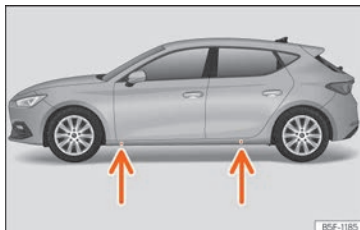

Fig. 46 Jack position points.
- Find the support point on the strut (sunken area) closest to the wheel to be changed »» » **Fig. 46**.